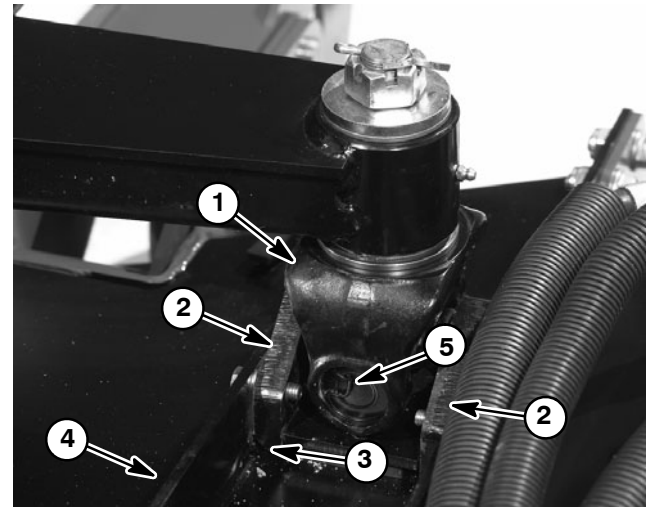

Figure 11
1. Remove snap rings from yoke (Fig. 11).
1. Press yoke joint to cutting deck base mounts with the angled edge of the mount assembled away from the joint (Fig. 11). The outside of the yoke bearing cup should be flush with the mount surface.
3. Position yoke joint with base mounts to deck mounts (Fig. 11) and install shims. Secure base mounts with cap screws and flat washers. Torque screws from **27 to 33 ft-lb (37 to 44 N-m)**.
5. Secure deck mount to cutting deck with eight (8) flange head screws, flat washers and lock nuts.